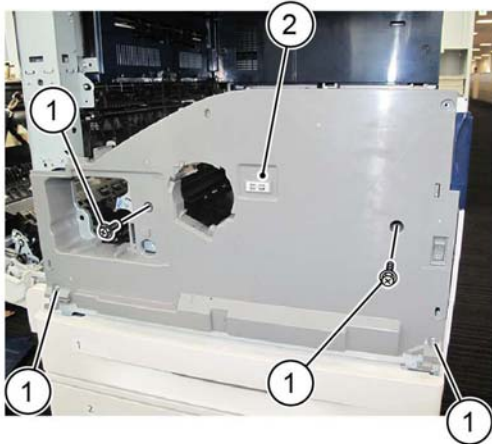

Figure 2 Inner cover removal
7. Remove the inner cover, Figure 2:
- a. Remove four screws (1).
- b. Remove the inner cover (2).